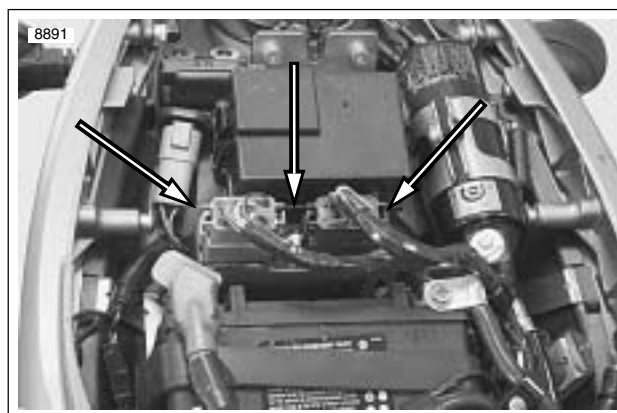

Figure 4-13. Electronic Control Module
2. See Figure 4-13. Inspect connector [10] (black) for contamination or corrosion. If connection is good, replace ECM. See 4.29 ELECTRONIC CONTROL MODULE.